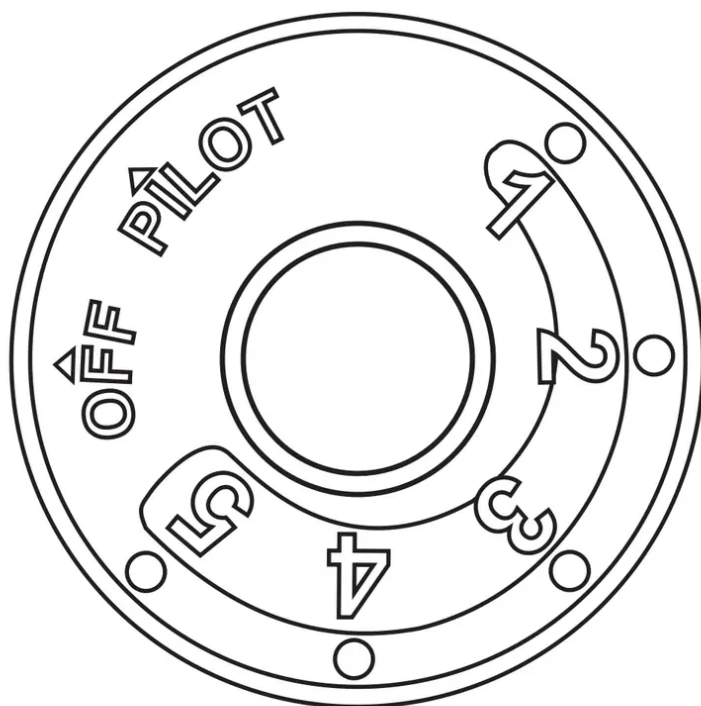

Fig. 22b
3. Turn control knob clockwise  to "OFF" position. (See Fig. 22b)